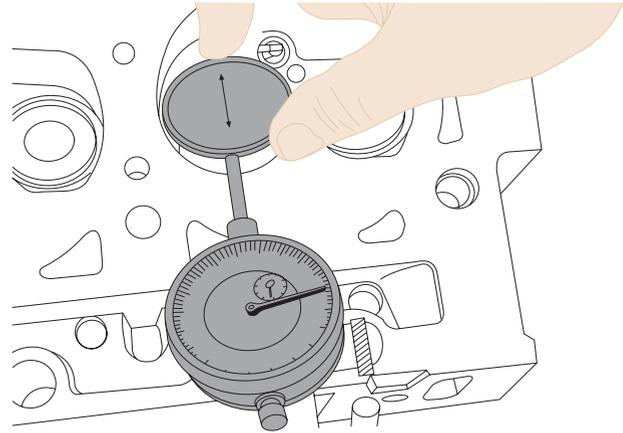

Figure 1.16 Using a dial gauge to measure valve guide and stem wear
**Valve guide wear** is a common problem, and it allows the valve to move sideways during operation. To check valve guide wear, slide the valve into its guide and try to wiggle it from side to side. If the valve moves in any direction, the valve guide or stem is worn. The amount of play can be measured using a dial gauge, as illustrated in Figure 1.16.